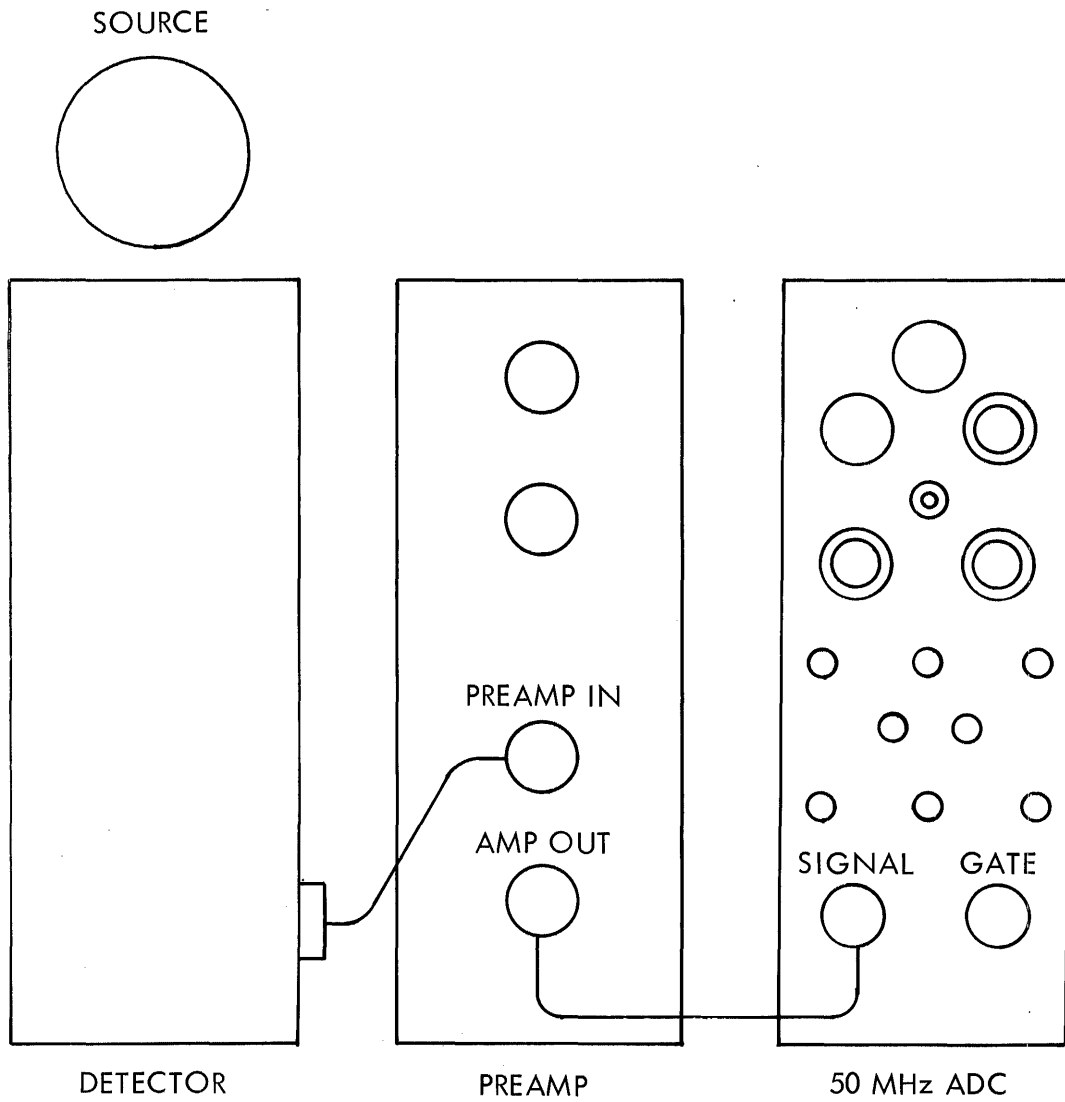

Figure 3-2. Typical System Set-Up for Pulse Height Analysis Experiment
a. Connect the source, detector, preamp, and ADC as shown in Figure 3-2. Connect the oscilloscope, ND812 computer, Power supply, and Teletype as shown in Figure 2-1.